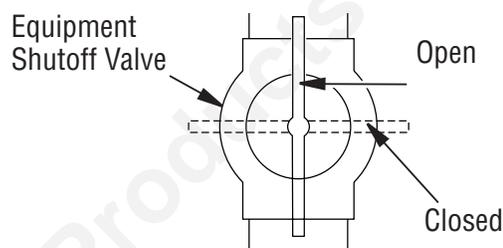

Figure 25 - Equipment Shutoff Valve
1. Close equipment shutoff valve (see **Figure 25**).
1. Open equipment shutoff valve (see **Figure 25**).